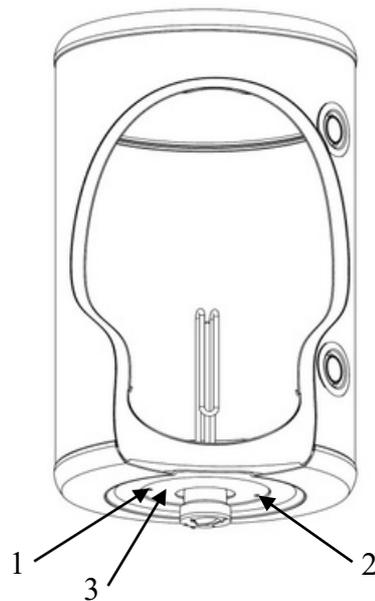

Fig. 2. Installing the electric heater.
NBT-SW tanks allow for the installation of an electric heater designed for use in tanks without an internal ceramic coating. The heater should be screwed into the 1 1/2" socket located in the lower bottom of the buffer tank, after removing the plastic cover. To do this, unscrew the two metal screws (Fig. 2 – items 1 and 2), and then remove the round plastic cap covering the heater socket. After removing the plug covering the heater socket, re-screw the plastic collar (Fig. 2 – item 3) to the bottom. After completing the above steps, you can begin screwing in the electric heater. Installation should be performed in accordance with the electric heater's installation and operating instructions.